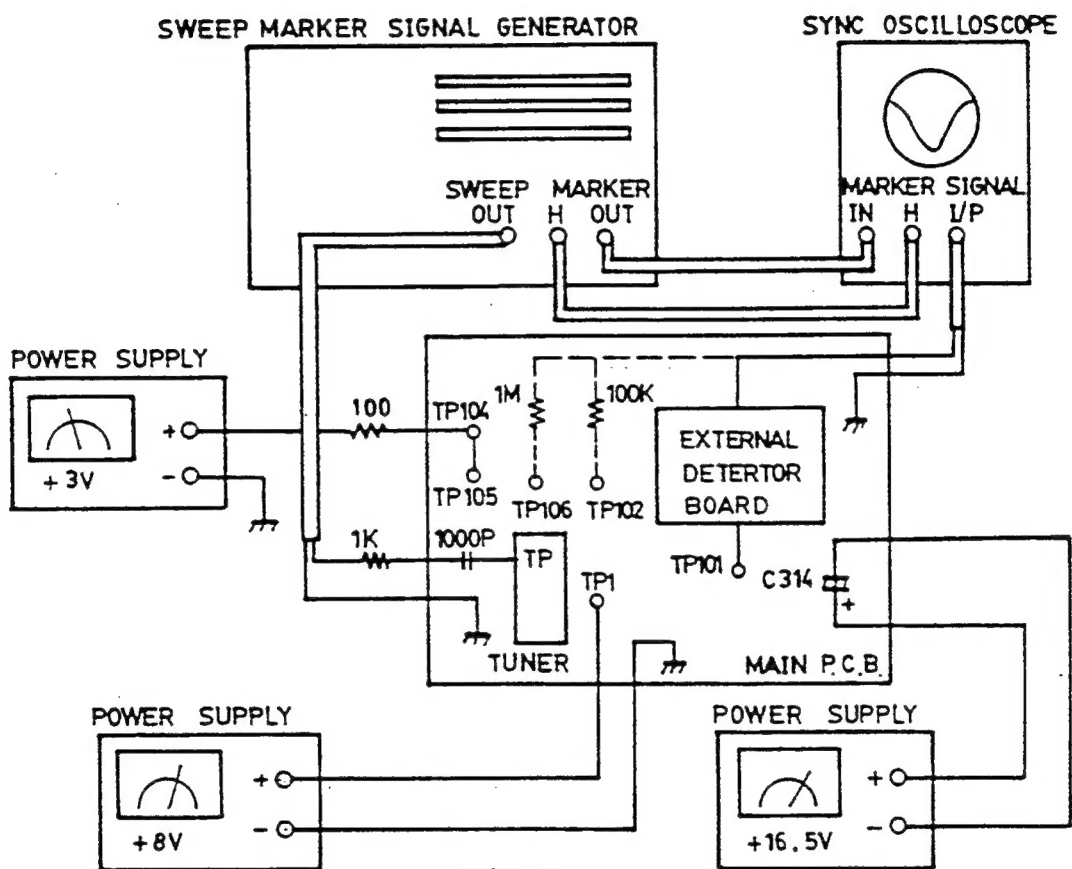

Fig. 8
1. Connect the signal output of sweep/marker generator to the Tp of Tuner through 1 K ohm resistor and 1000PF capacitor. (See Fig.8.).